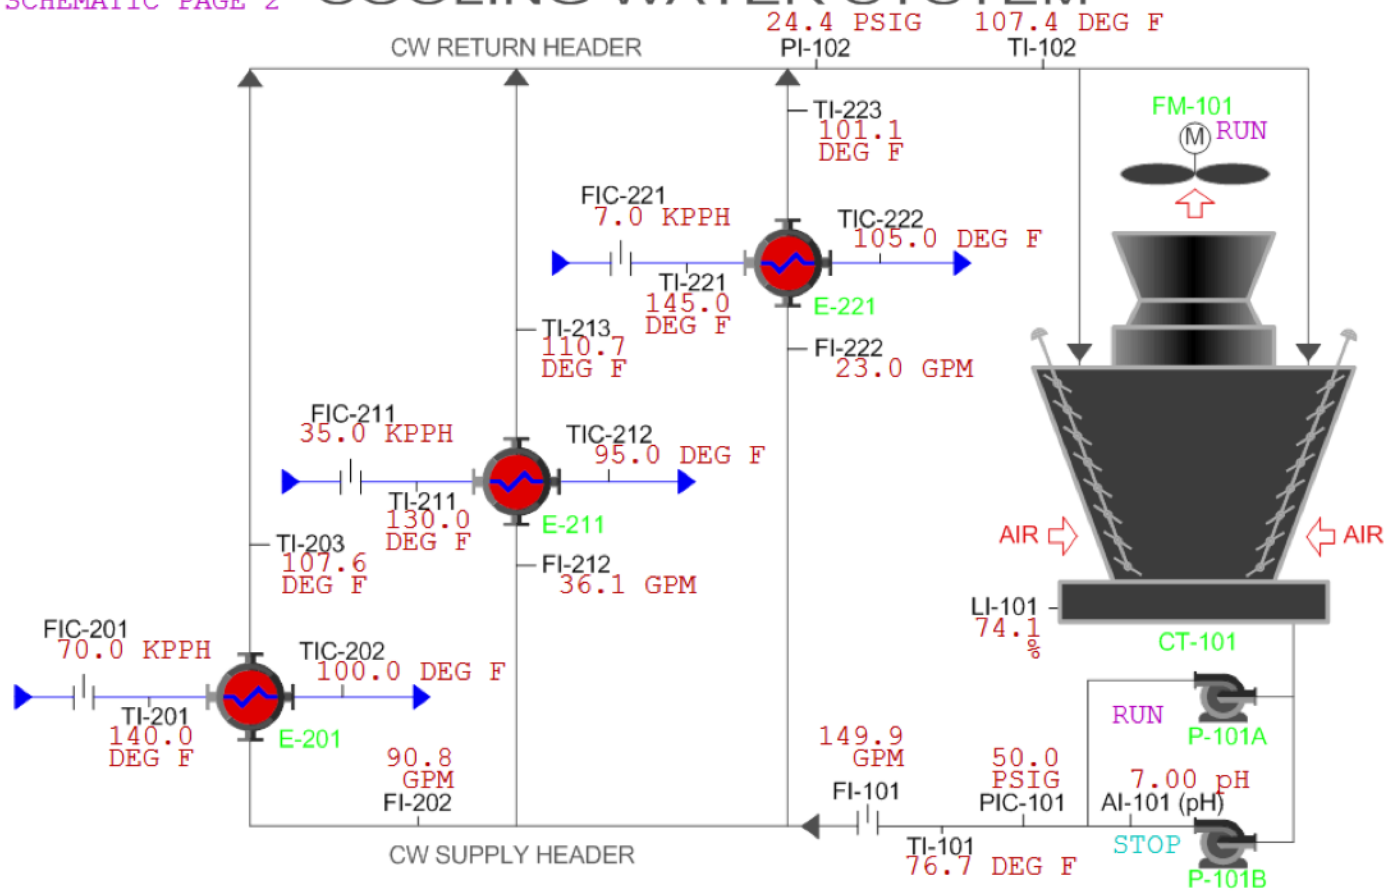
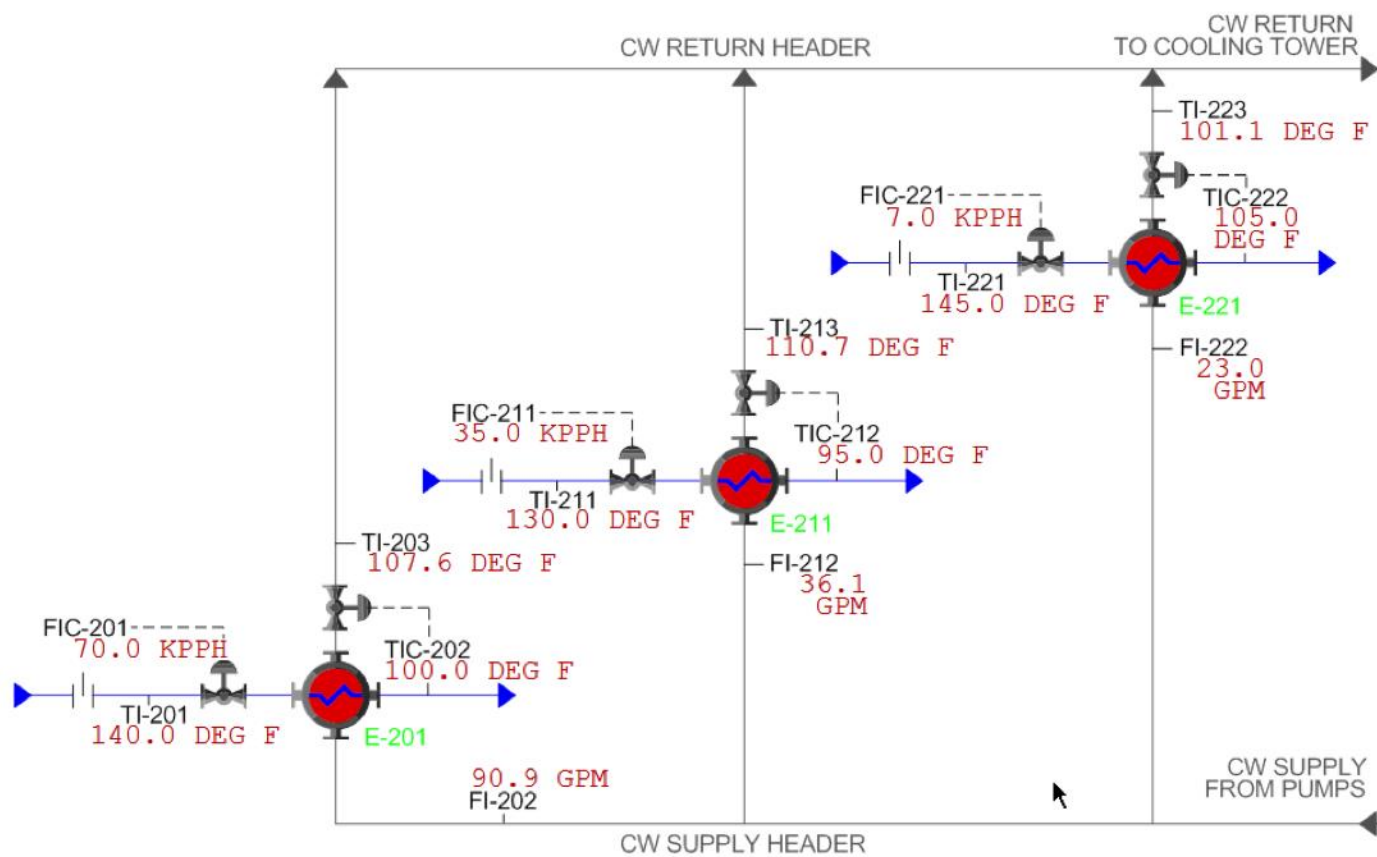

Figure 1. Cooling Tower Schematic
Figure 2. Process Exchangers Schematic
NOTE: This process background description and equipment specifications are specific to the Cooling Tower schematics shown in Figure 1 and Figure 2 and provided courtesy of Simtronics Corporation.
Cooled water is collected in a basin at the bottom of the cooling tower and is pumped to a supply header, which feeds the three process heat exchangers (Figure 1 and Figure 2). The cooling water picks up heat from the process heat exchangers by heat transfer across the surface of metal tubes in shell-and-tube heat exchangers. Warm water from the heat exchangers is collected in a return header and is routed to the top of the cooling tower. The warm return water falls to the basin and is cooled by contact with air drawn through the tower by a motor-driven fan on top of the cooling tower. The internal packing in the cooling tower maximizes contact between the air and the water to ensure maximum heat exchange. Also, evaporation of a portion of the return water occurs in the cooling tower.
1. Does the cooling tower in Figure 1 have an induced or forced draft fan?